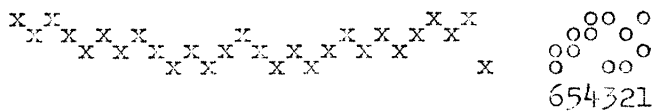
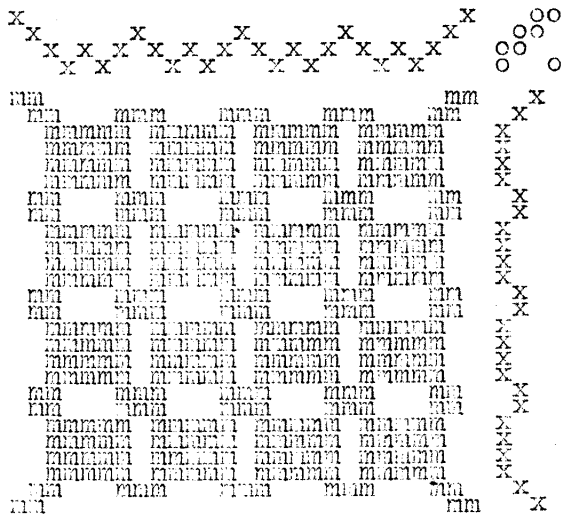
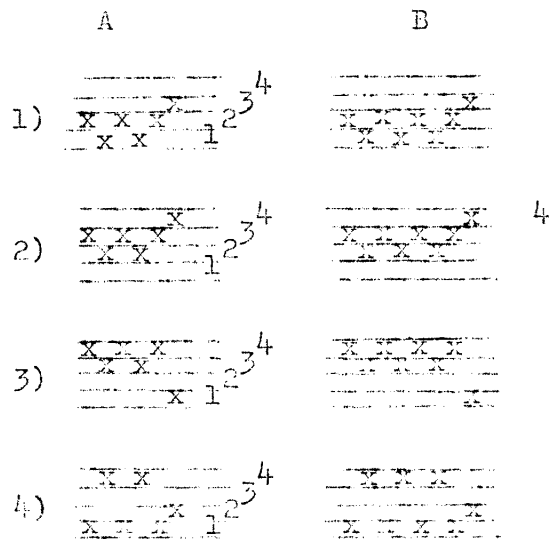

Fig.1
Fig. 2
Fig. 3
For instance in fig. 1, we shall use blocks: 1,2 and 3,4. The other pair is not very interesting, because there is hardly anything on
4. How to combine the freedom of the pattern, and a uniform texture? There is in colonial weaving a technique of drafting which practically solves all our problems. There is one element of pattern which can have any size whatsoever and still the floats remain of reasonable length. This is the colonial Table (fig.2). The table is made of any number of small squares or rectangles. Thus we can have the floats quite short (5 in our example), but the table may be as large as wanted.
Now we can have four different tables, each made of units of 6 or 8 warp ends. The draft in fig.2 is made of four such units. Fig.3 shows in column A all four units with floats of 5, and in column B - units which give floats of 7. In draft 2 we have used four units No.1 in column A.
Fig.1 explains why it happens. The width of the woven fabric is always less than the width in reed, because of the take-up on the weft. With very few exceptions, such as warp-face fabrics, the cloth is narrower than the warp in reed. In result the warp-ends between the cloth and the reed are not straight
1. The Main Draft. In conventional weaving patterns are usually symmetrical, but the drafts very often are not. Thus the first step in such a case is to "balance" the draft. This can be done in two ways. Let's take as an example the draft in fig.1.
The draft is not symmetrical. To balance it we can for instance transfer the part from A to B to the left as in fig.2.
This is still not completely symmetrical, but the difference of one heddle can be taken care of when adjusting the borders. Another way of balancing is to use the draft such as given in fig.1, repeat it in threading the required number of times, and then add at the end the part from A to C (fig.1). It will look as in fig.3.